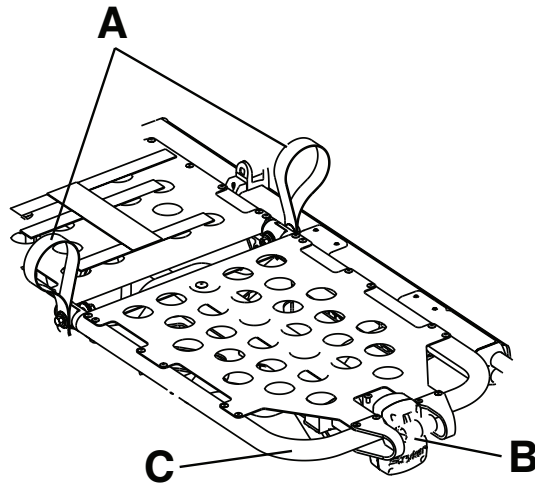

Figure 18 – Gatch
1. Lift either of the red lifting loops (A) until the knee Gatch is in the highest position (Figure 18).
To lower the knee Gatch, lift either of the red lifting loops (A) to relieve pressure on the locking mechanism. While you hold the loop, push on the red footrest release handle (B) until the support bracket is released (Figure 18). Lower the knee Gatch until it lays flat.
To raise the knee Gatch in Trendelenburg, lift the footrest frame (C) as high as possible until the frame locks into place (Figure 18). The support bracket automatically connects when you release the frame.
To lower the knee Gatch in Trendelenburg, lift the footrest frame (C) and, while you hold the frame, lift up on the red footrest release handle (B) until the frame releases the support bracket (Figure 18). Lower the footrest until it lays flat.